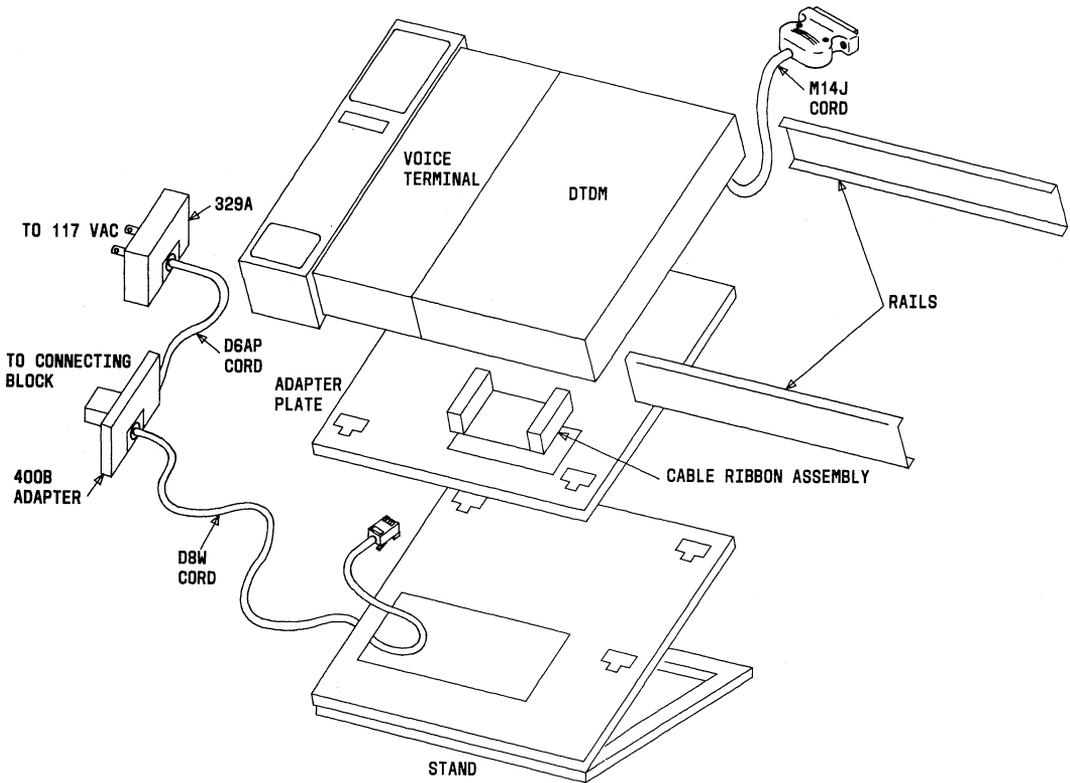

Fig. 2—Components Used With DTDM
4.02 An auxiliary power source consisting of a 329A power unit, and a D6AP cord are required to power the DTDM (Fig. 2).